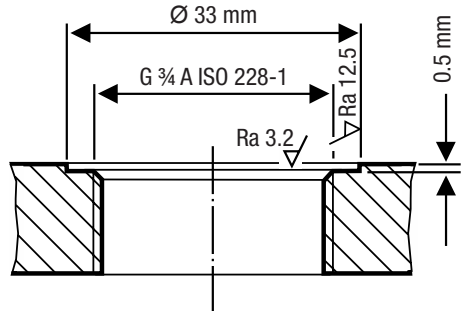

Fig. 7
- Inspect the sealing surfaces of tank threaded standpipes or flange covers to ensure they are perfectly machined, see Fig. 7.
Sealing surfaces must be perfectly machined as shown in Fig. 7.